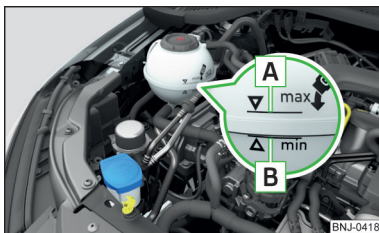

Fig. 250
Check the coolant level – The coolant level must lie between the marks **A** and **B** » Fig. 250. If the coolant level is below the mark **B**, top up with coolant.
The **specification** for the coolant is shown in the coolant expansion reservoir » Fig. 250.
- Do not fill the coolant above the mark **A** » Fig. 250. The coolant could, when heated, be expelled from the cooling system - risk of damage to the engine parts.